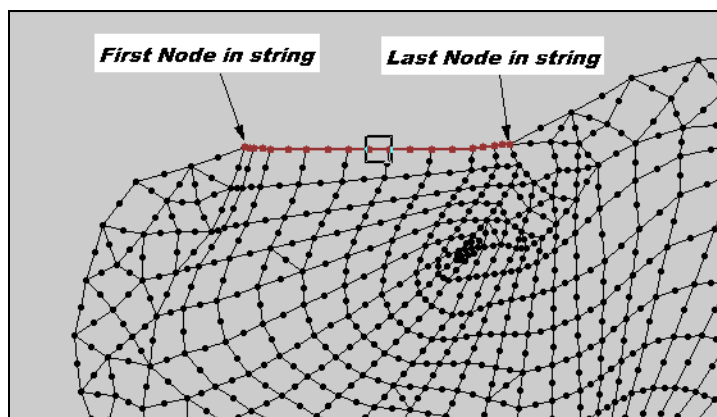

Figure 3-4 Nodestring for renumbering of the mesh.
2. Click on the upper far left node of the mesh, then holding the SHIFT key double click on the upper right node of the mesh (see Figure 3-4).